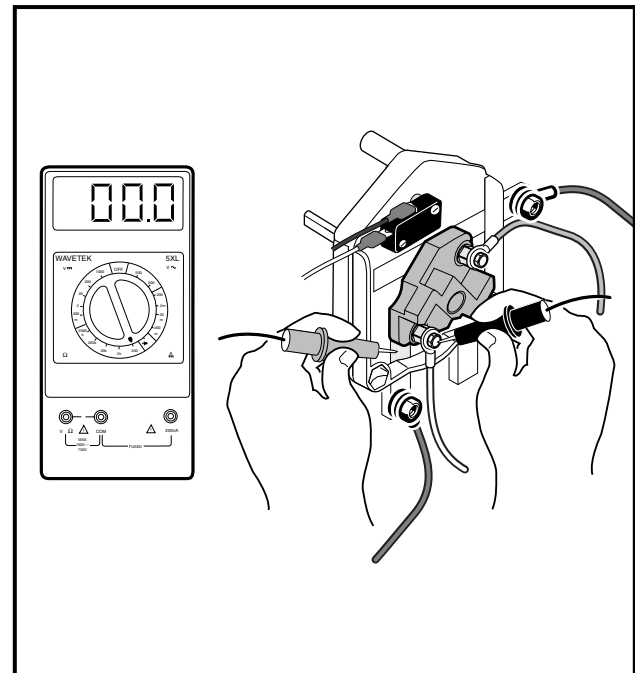

Figure 11-12 Forward/Reverse Switch Test – Step 2.2
- 2.2. With the Forward/Reverse switch in the FORWARD position, place the red (+) probe on the forward terminal lug (with the 6-gauge red wire attached) of the Forward/Reverse switch, and place the black (–) probe on the movable contact (with the white wire attached) on the forward and reverse rotor (**Figure 11-12, Page 11-12**). The reading should be continuity.